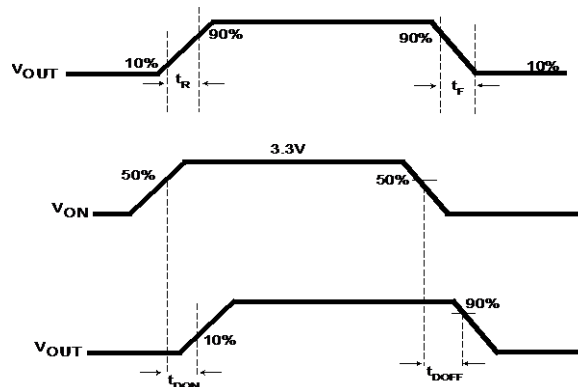

Figure 23. Timing Diagram for FPF1203/4/045
- $t_{DON}/t_{DOFF}/t_R/t_F$ are defined in Figure 23.